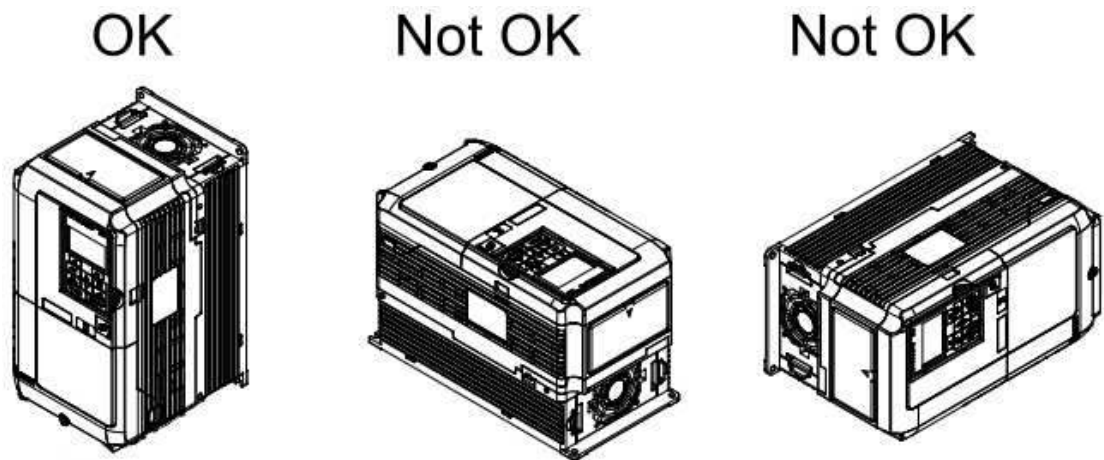

Figure 2-2: Correct Installation Orientation
4. Determine the proper drive orientation on the subpanel to maintain proper cooling (see Figure 2-2).